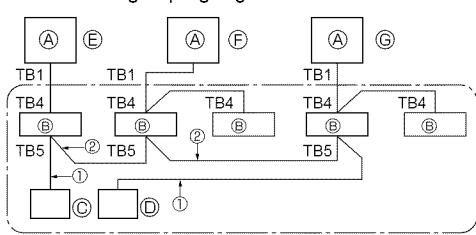

Fig. 9-1
① Supply power (circuit breaker).
② After the gas stop valve is closed, set the SWP switch on the control board of the outdoor unit to ON. The compressor (outdoor unit) and ventilators (indoor and outdoor units) start operating and refrigerant collecting operation begins. LED1 and LED2 on the control board of the outdoor unit are lit.
③ Because the unit automatically stops in about two to three minutes after the refrigerant collecting operation (LED1 and LED2 are lit), be sure to quickly close the gas stop valve. When LED1 and LED2 are lit and the outdoor unit is stopped, open the liquid stop valve completely, and then repeat step 2 after three minutes have passed.
④ Turn off the power supply (circuit breaker).
9. System control (Fig. 9-1)